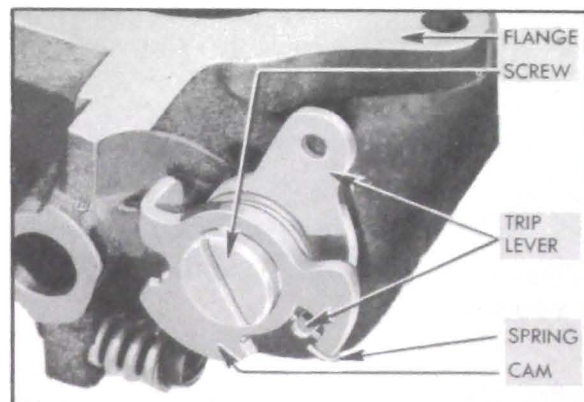

Figure 3-32—Fast Idle Cam, Spring, and Trip Lever
2. Place fast idle cam and cam trip lever over fast idle screw so that tongue on trip lever is held in the notch in cam by the hooked end of cam spring, then install parts on body flange. See figure 3-32.